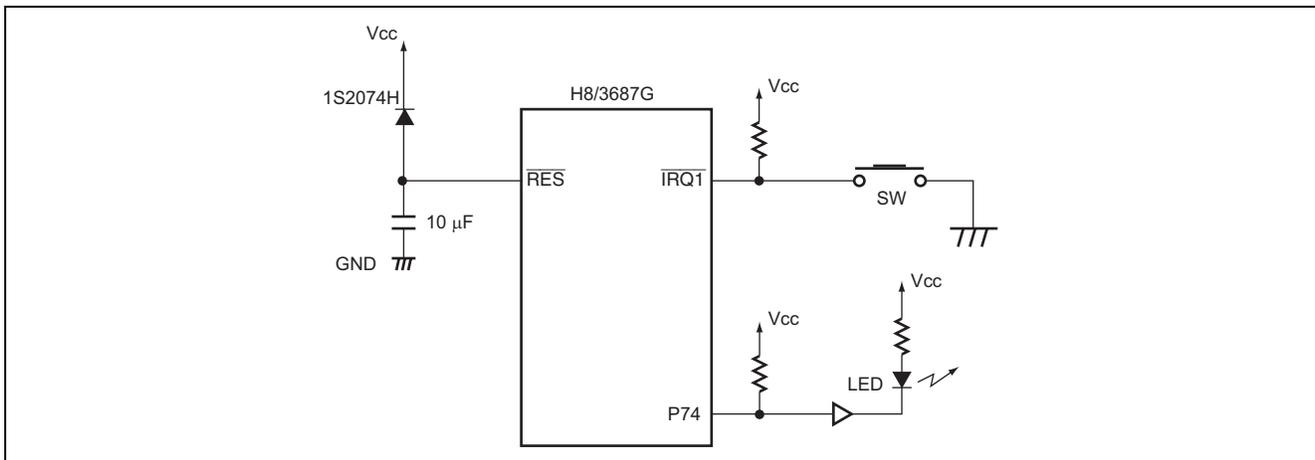

Figure 1.1 Connection example for this task
5. A connection example for this task appears in figure 1.1.